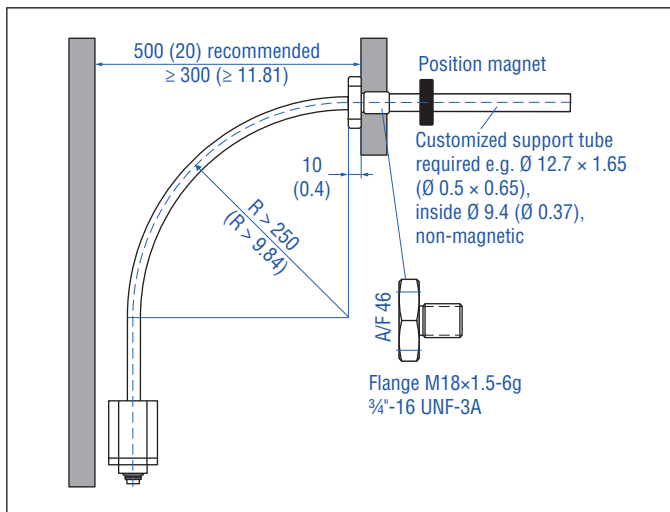

Fig. 19: Clearances for installation and handling
3. Note the minimum distance to a spatial limitation of 300 mm (11.81 in.), when mounting/dismounting the sensor. The recommended distance is 500 mm (20 in.) (Fig. 19).
- Mount the sensor electronics housing by means of 3 non-magnetic socket head screws M4x59. Fastening torque: 1.4 Nm (Fig. 19). Secure the screws, e.g. using Loctite 243, before re-installing.